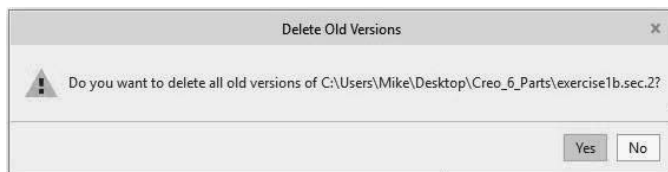

Figure 3-67 Accept CommandActions
Step 34: *Pick Yes* to remove all previously saved versions of this file in your working directory (Figure 3-67).